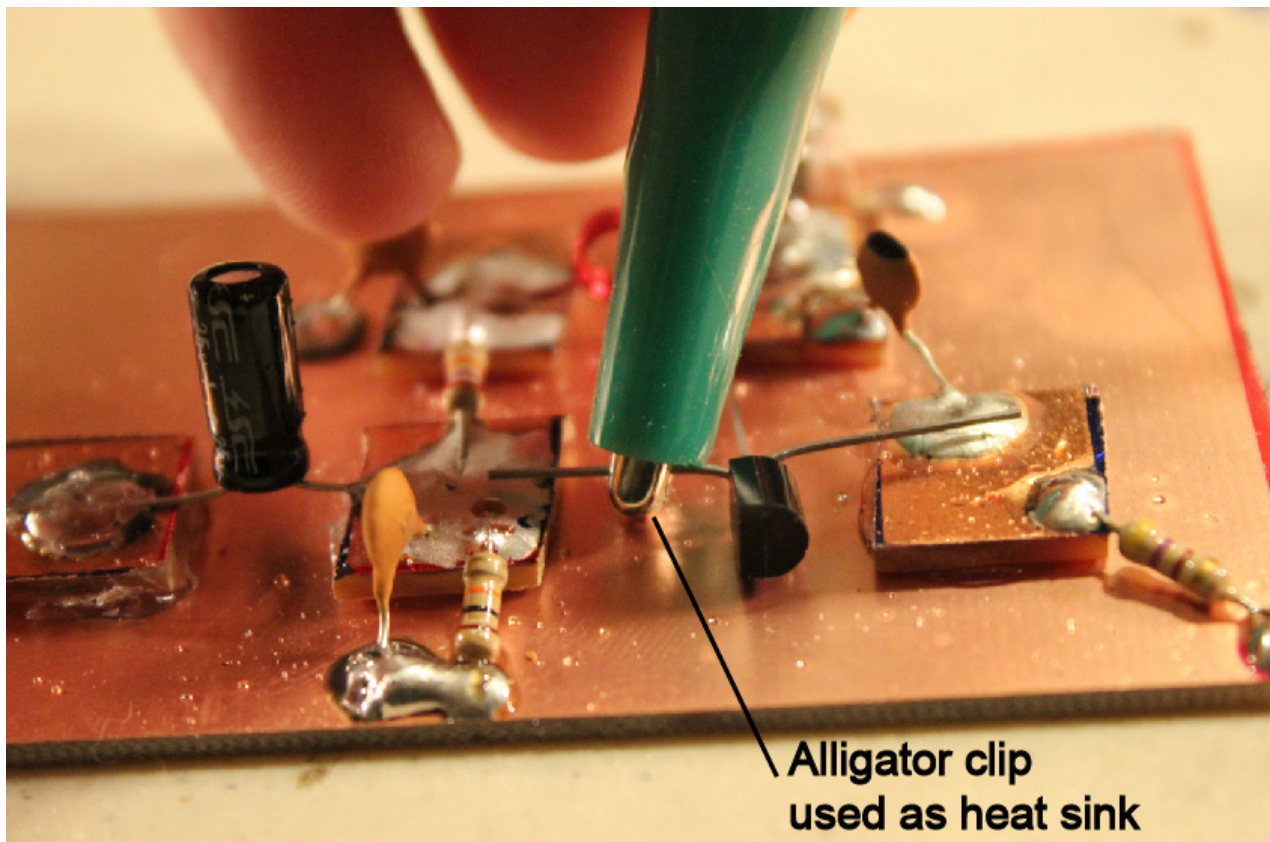

Figure 17
- Before you solder the transistor in place, you need to have a “heat sink” attached to protect it. This will draw some of the heat from the transistor to something else. To do this, simply take an alligator clip and attach it to the lead you are soldering. (See figure 17)